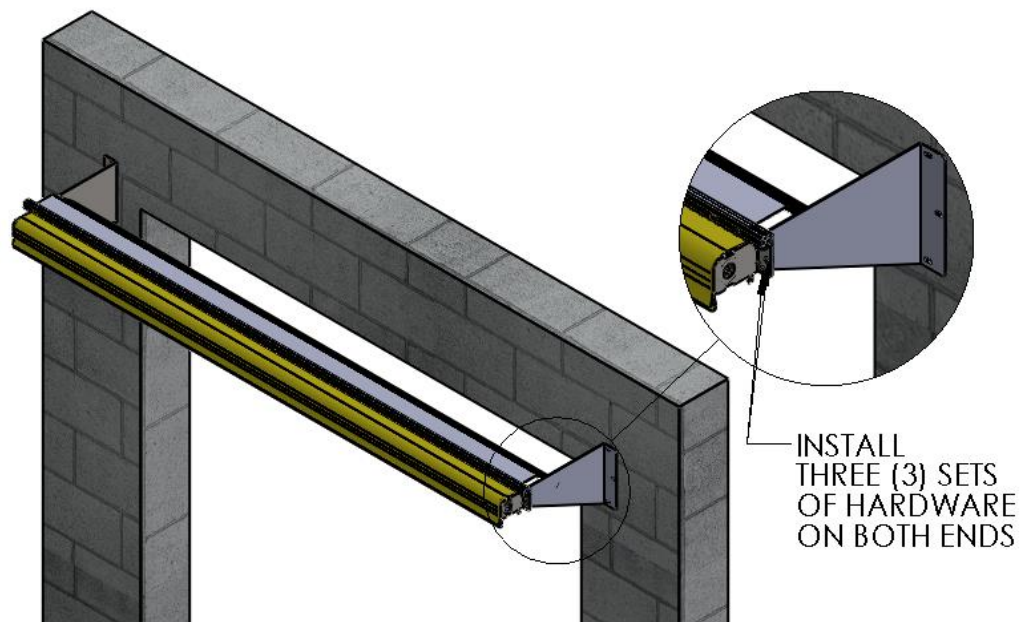

Figure 6 MOUNT HEADER ASSEMBLY TO OFFSET BRACKETS
1. Using two (2) people, and two ladders at minimum, raise the Roll Header Assembly into place on the offset brackets and secure with three (3) sets of ¼-20 screws and hex nuts per side. Do not fully tighten hardware until the Header Assembly Brackets are aligned with the offset brackets/edges. (Figure 6 MOUNT HEADER ASSEMBLY TO OFFSET BRACKETS)